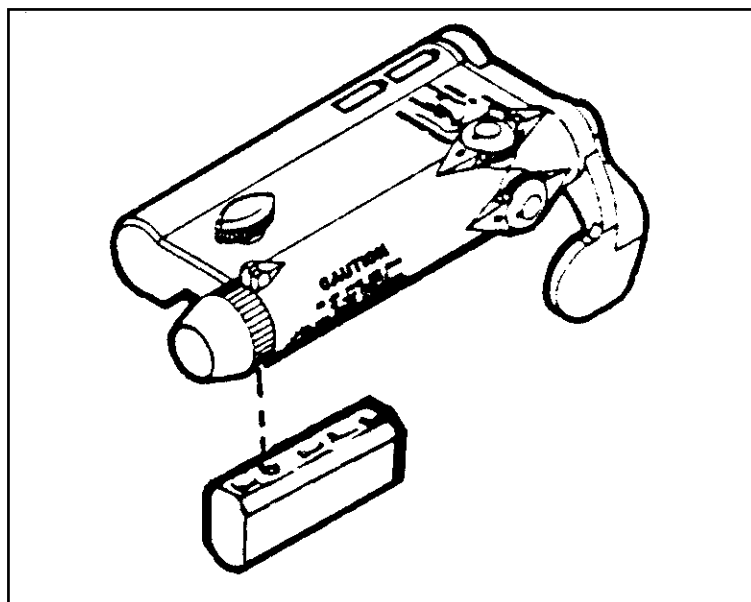

Figure F-5. Attaching bracket adapter to aiming light.
STEP 3: Attach the AN/PAQ-4 onto the bracket adapter (Figure F-5).